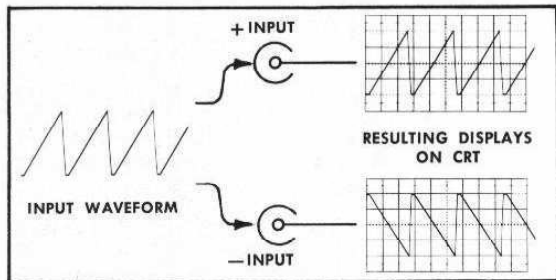

Fig. 2-9. A signal applied to the + INPUT connector produces an upright display, while a signal applied to the - INPUT connector is inverted.
- +INPUT** Signal input connector. Positive input produces upward deflection. See Fig. 2-9.
- INPUT** Signal input connector. Positive input produces downward deflection. See Fig. 2-9.